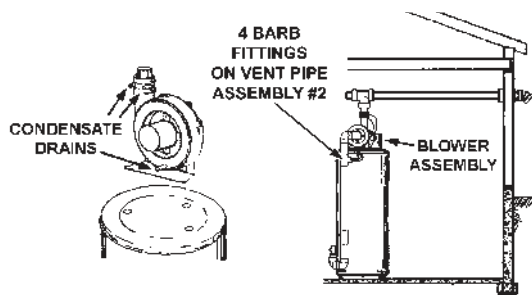

FIGURE 17.
3. The blower discharge adapter is made to accept only straight sections of 2" pipe. To start, a minimum of 2 inches (5.1 cm) of 2" pipe must be attached to the blower discharge, see Figure 17.
4. There will be some installations where condensate will be formed in the horizontal runs of the vent system. This condensate will run into the condensate boot attached to the blower and out the fitting. The water heater is shipped with condensate hose that attaches to the fitting on the condensate boot. No other Tee or fitting is required. See Figures 17, 20 and 21.
This water heater is a condensing unit and requires a drain to be located in close proximity to allow condensate to drain safely. One hose from blower housing and two flexible hoses from blower outlet adaptor, run to barb fittings on vent pipe assembly #2. Hose is clamped by rubber clips and flexible hoses by a clamp on jacket top cover. See Figure 17. Condensate drains from the unit at the exhaust tee located at the bottom of the unit (see figure 16). Condensate from this water heater is mildly acidic. Please note
Condensate is likely to form in the venting system attached to this water heater. The vent pipe should be sloped downward away from the blower assembly (not less than 1/8" (3.2 mm) nor greater than 1/2" (12.7 mm) per foot (30 cm) maximum). If the vent piping is vented level or sloped upwards away from the blower assembly, then adequate means for draining and disposing of the condensate needs to be made by the installer. Two 3/8" condensate hoses should be connected to the built in drain ports of blower outlet adaptor. The unused barb fitting on vent pipe assembly #2 should be plugged with one of the break-away plugs. See Figure 17.
3. Condensate drains from three locations on blower assembly. See Figure 17. One flexible hose runs from bottom of blower housing; two run from the ports of rubber connector at the outlet of blower. All these three condensate hoses are connected to barb fittings at vent pipe assembly #2. The hose from bottom of blower housing is clamped by two clamps and the two hoses from rubber connector are harnessed by another clamp. Make sure there is no kink or twist.